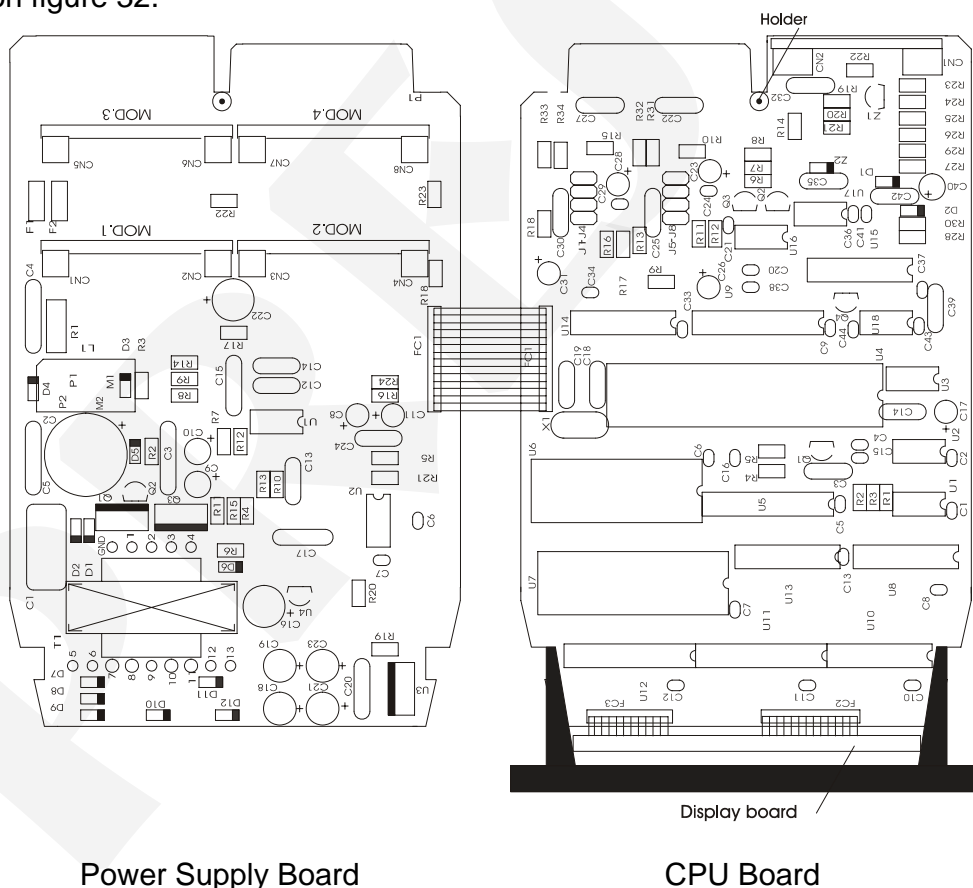

Fig. 32 - Controllers Hardware
- iv) Disengage the upper circuit board toward the right and open the circuit boards as shown on figure 32.